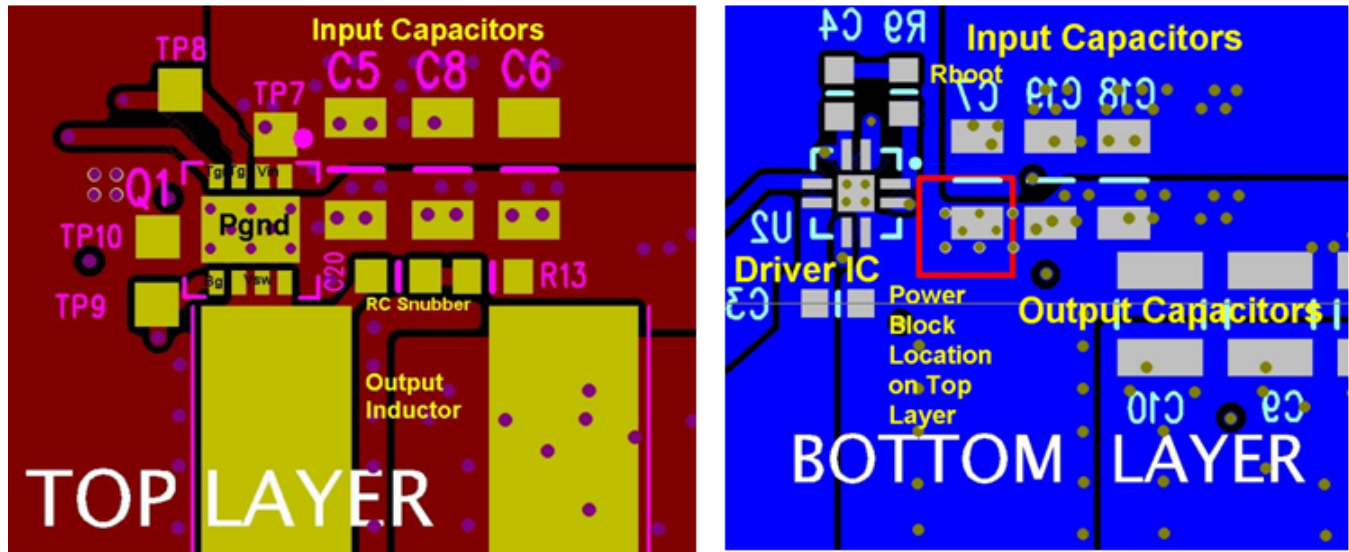

Figure 34. Recommended PCB Layout (Top Down)
- The placement of the input capacitors relative to the power block's VIN and PGND pins should have the highest priority during the component placement routine. It is critical to minimize these node lengths. As such, ceramic input capacitors need to be placed as close as possible to the VIN and PGND pins (see Figure 34). The example in Figure 34 uses 6 × 10-μF ceramic capacitors (TDK C3216X5R1C106KT or equivalent). Notice there are ceramic capacitors on both sides of the board with an appropriate amount of vias interconnecting both layers. In terms of priority of placement next to the power block, C5, C7, C19, and C8 should follow in order.
- The switching node of the output inductor should be placed relatively close to the power block VSW pins. Minimizing the node length between these two components will reduce the PCB conduction losses and actually reduce the switching noise level. In the event the switch node waveform exhibits ringing that reaches undesirable levels, the use of a boost resistor or RC snubber can be an effective way to easily reduce the peak ring level. The recommended boost resistor value will range between 1 Ω to 4.7 Ω depending on the output characteristics of driver IC used in conjunction with the power block. The RC snubber values can range from 0.5 Ω to 2.2 Ω for the R and 330 pF to 2200 pF for the C. Please refer to Snubber Circuits: Theory, Design and Application (SLUP100) for more details on how to properly tune the RC snubber values. The RC snubber should be placed as close as possible to the Vsw node and PGND see Figure 34.⁽¹⁾
- Use the smallest drill size allowed in your design. The example in Figure 34 uses vias with a 10-mil drill hole and a 16-mil capture pad.